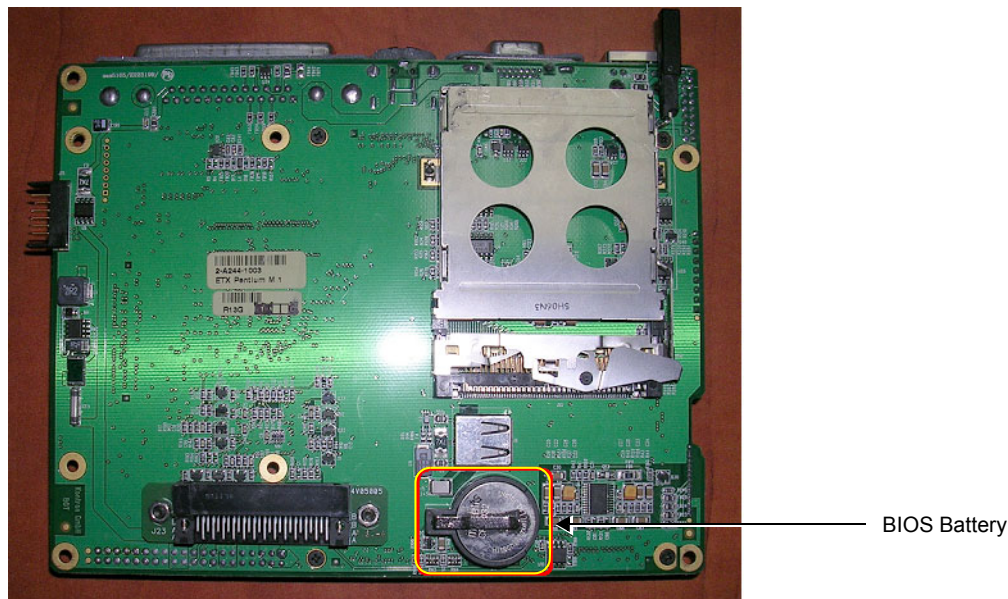

Figure 8-61 BEP - Location of BIOS Battery
- 2) Take out the BIOS battery located on the bottom of the BEP, as shown in Figure 8-61.
- 1) Fit a new BIOS battery in position on the BEP - refer to Figure 8-61.